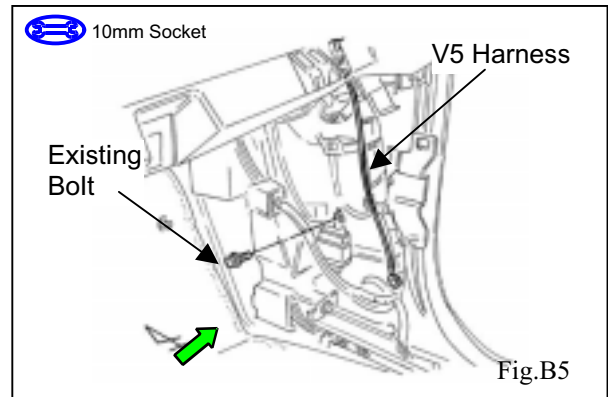

Fig.B5
11. Locate and remove the existing bolt from the ground point in the passenger side cowl area. (Fig. B5)